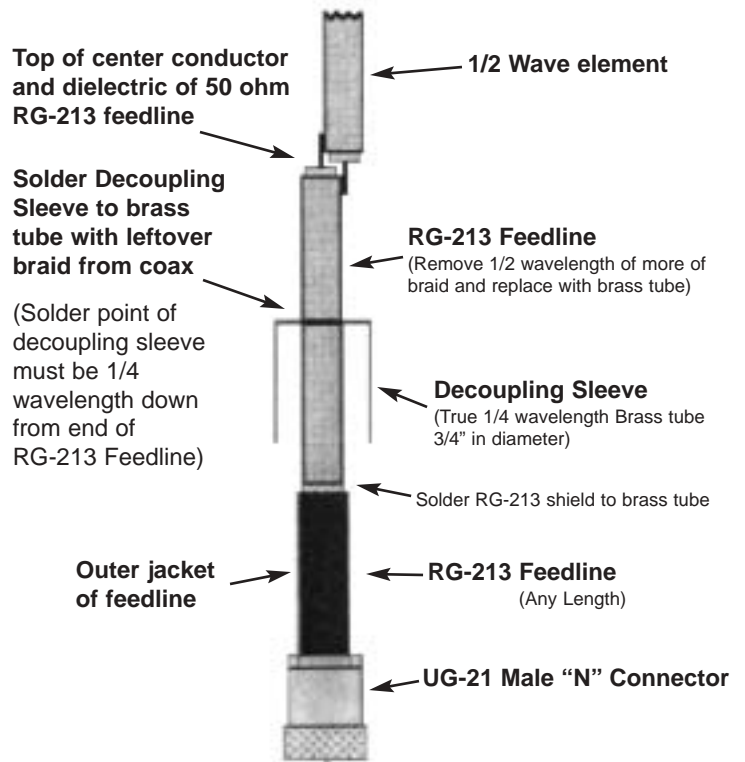

Figure 4 - Feedline attachment and decoupling sleeve
Step 9. Make a true 1/4 wave long (no velocity factor correction) decoupling sleeve out of a piece of 3/4" brass tubing. Using some excess shield material, or some other acceptable manner, solder the decoupling sleeve to the feedline outer conductor at a point exactly 1/4 wavelength down from where the feedline attaches to the first 1/2 wave element. See figure 4.